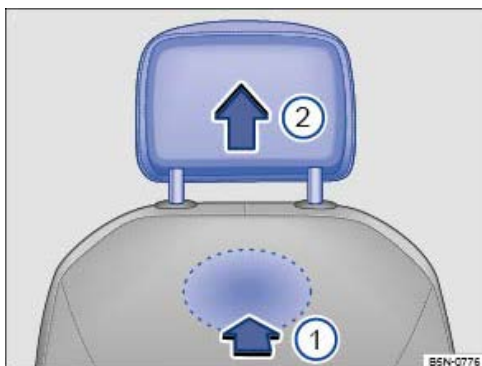

Fig. 100 Removing the front head restraint.
- To unlock it, feel for the recess in the marked area on the rear side and press in in the direction of the arrow → Fig. 100 ☺ .
- Pull the head restraint out in the direction of the arrow → Fig. 100 ☺ .